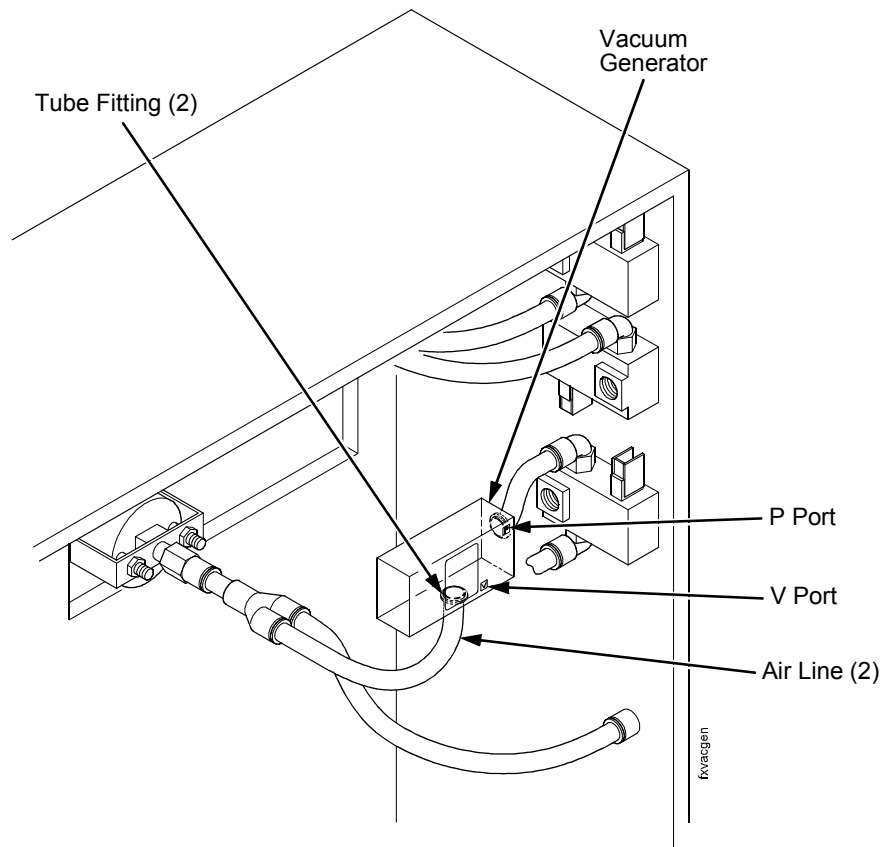

Figure 40. Vacuum Generator
1. Locate the vacuum generator inside the electrical enclosure, on the applicator side of the SLPA (see Figure 40). The vacuum generator housing will mark the pressure connection with a P and the vacuum connection with a V. Label the respective tubes before disconnecting them, to ensure proper reassembly.